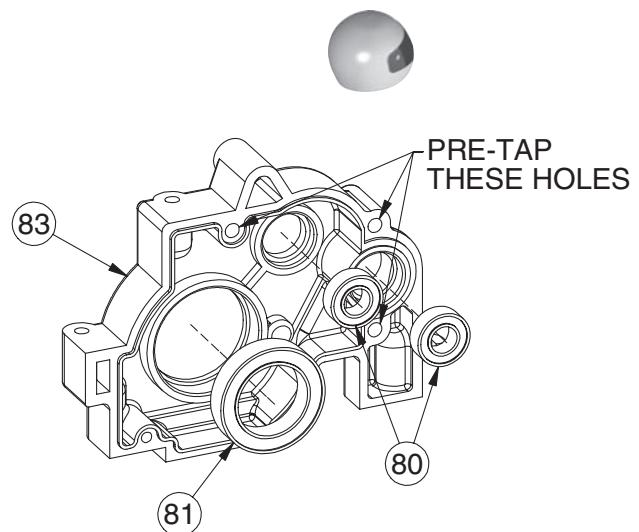

Figure E-11
- 1. Use the short, 4-40 Thread-Cutting Screw, included in the wrench bag, to pre-tap the three holes noted in Figure E-11. Thread the Screw all the way into and out of each hole on the Left Gearbox Half (83).
□ 2. Insert two 3/16" x 3/8" sealed Bearing (80) into the two top bearing seats of the left Gearbox Half.
□ 3. Insert a 1/2" x 3/4" Bearings (81) into the lower Bearing seat of the left Gearbox Half.